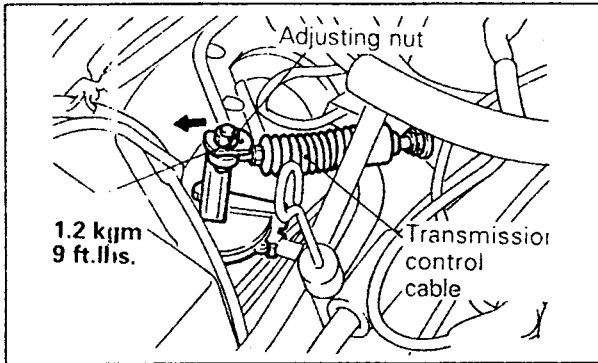

Fig. 8.3. — Details for the adjustment of the gearchange cable
- Slacken the nut (3) in Fig. 8.3 and pull the cable in the direction of the arrow.
- Check that the selector lever is in position "N". Change the selector lever through the gear range. The selector lever positions must correspond to the positions of the lever (1) on the transmission.
- Disconnect the gearchange control cable (1) from the lever (also see Fig. 8.3), take out the cable retainer and push the cable away from the transmission.
- Remove the screw (3) and then connect the various connector plugs. These are for the pulse generator (4), the oil temperature sensor (5), and the kick-down servo switch (6). Also in this vicinity disconnect the plugs from the inhibitor switch (7) and the solenoid valve (8).
- Disconnect the starter motor wiring and remove the bolts securing the upper portion of the transmission to the engine. One of the bolts secures an earth cable. Remember which one it is. The starter motor (10) can also be removed.
- Remove the bolt (11) securing the transmission mounting to the mounting bracket. The engine must be lifted up to take the load of the mounting. Refer to the removal of the manual transmission for some tips how this can be achieved. Remove the